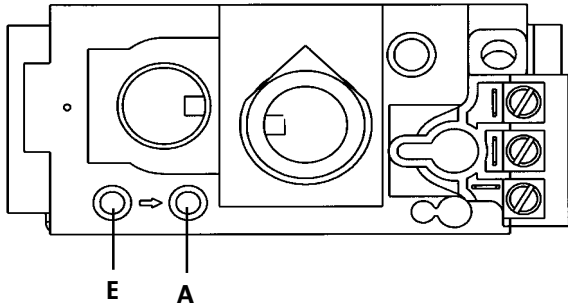

Figure 20. Pressure test points.
**Pressure Test:** Attach a manometer to the appropriate test point on the valve. See fig. 20. The gauge connections are located on the front of the valve under the On/Off/Pilot- knob. Gauge connections are identified by: